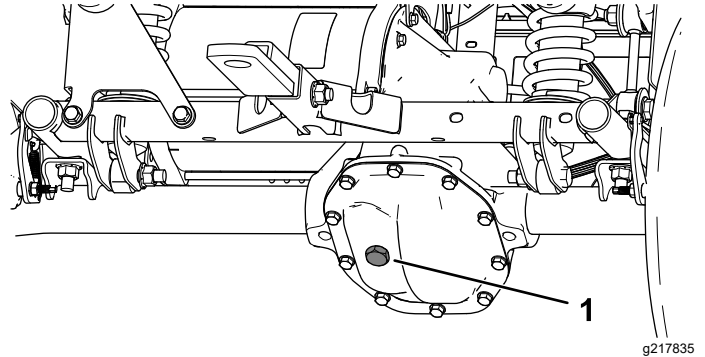

Figure 50
4. Remove the fill plug on the transaxle (Figure 50).
5. If the fluid level is low, remove the fill plug and add the specified fluid until it runs out of the hole (Figure 50).
4. Remove the fill plug on the transaxle and fill the transaxle with the specified fluid until it runs out of the fill hole (Figure 50).